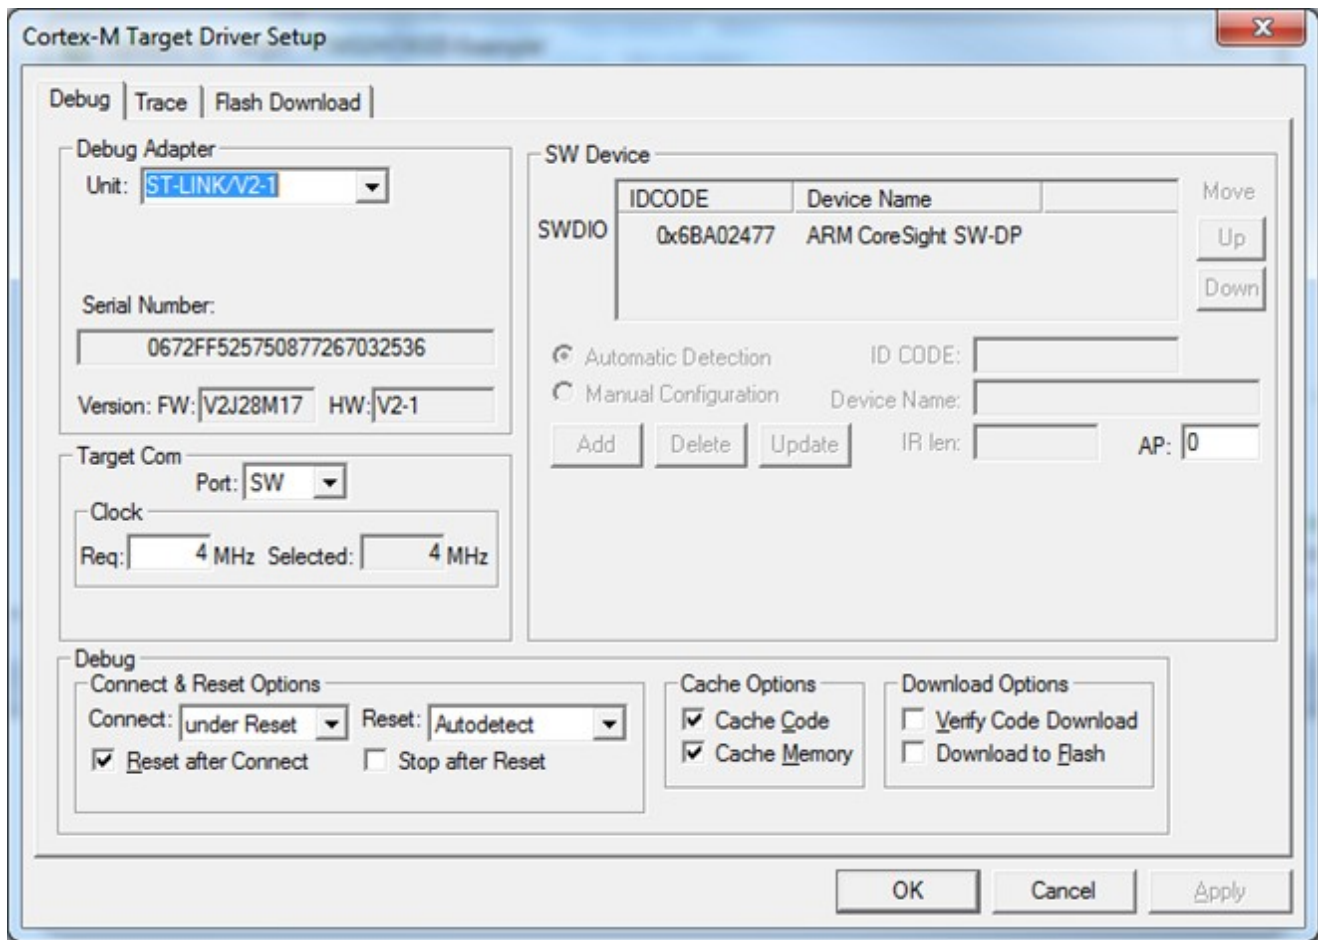

Figure 2 : Target Driver Setup
5- Click on Settings to configure the ST-Link. Figure 2 opens up.
6- Select the SWJ box and set Port: to SW as shown in Figure 2. This must not be set to JTAG. SWV operates only through the Serial Wire debug port (SW). Max clock @ 4 MHz is correct.